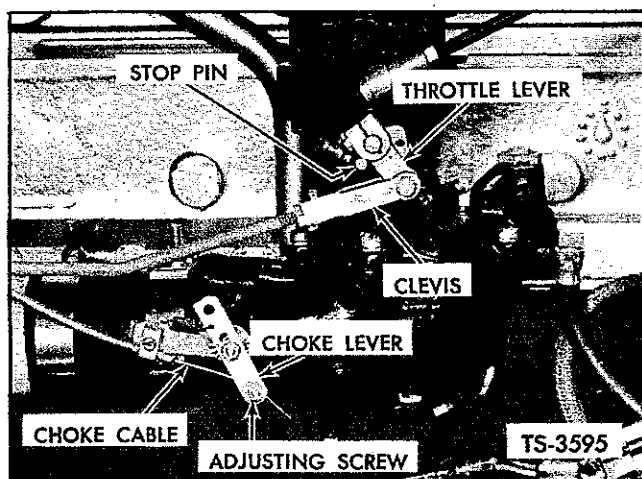

Fig. 14. Adjust Throttle and Choke Linkage — Continental Gas
3. Adjust clevis so that throttle lever is against stop just before accelerator bottoms. See Figure 14.
4. Adjust cable length if necessary at cable clamp or at lever on carburetor. See Figure 14.